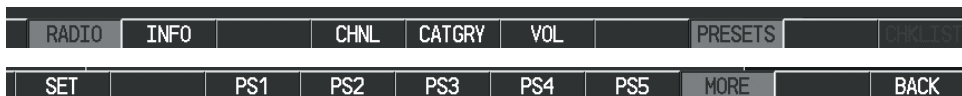

Figure 11-27 Accessing and Selecting XM Preset Channels
- 1) On the XM Radio Page, while listening to an Active Channel that is wanted for a preset, press the **PRESETS** Softkey to access the first five preset channels (**PS1 - PS5**) (Figure 11-27).